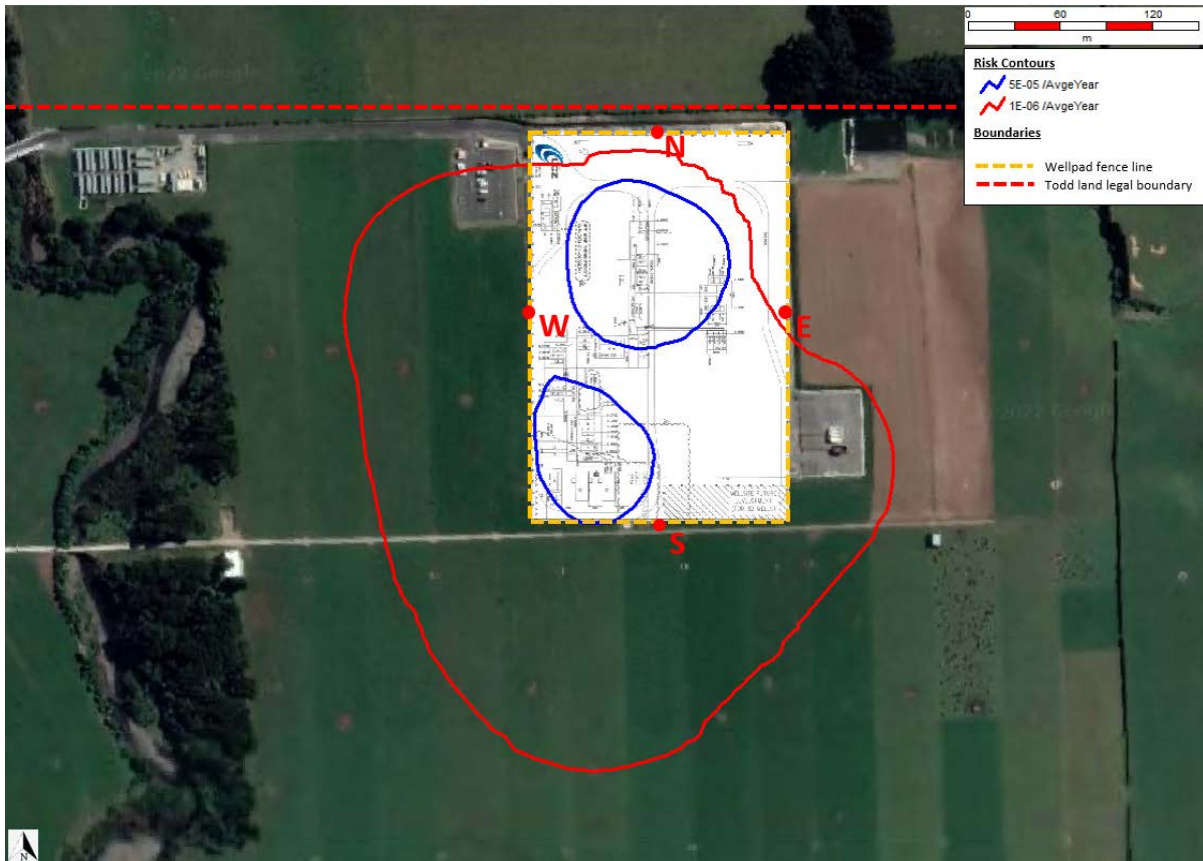

Figure 6-2: Kapuni J Normal Operations Risk Contours
The risk contour during normal operations of Kapuni J wellsite with all wells in production is presented in Figure 6-2. The LSIR results as assessed against the criteria are given in Table 6-3.
Risk ranking points can be placed in the Safeti model to identify the risk contributors at various locations. Four (4) points have been placed on each of the wellpad fence lines to identify the key risk contributors during normal operation (marked as “N”, “S”, “E” and “W” on Figure 6-2). The risk contributors at each location are described below.